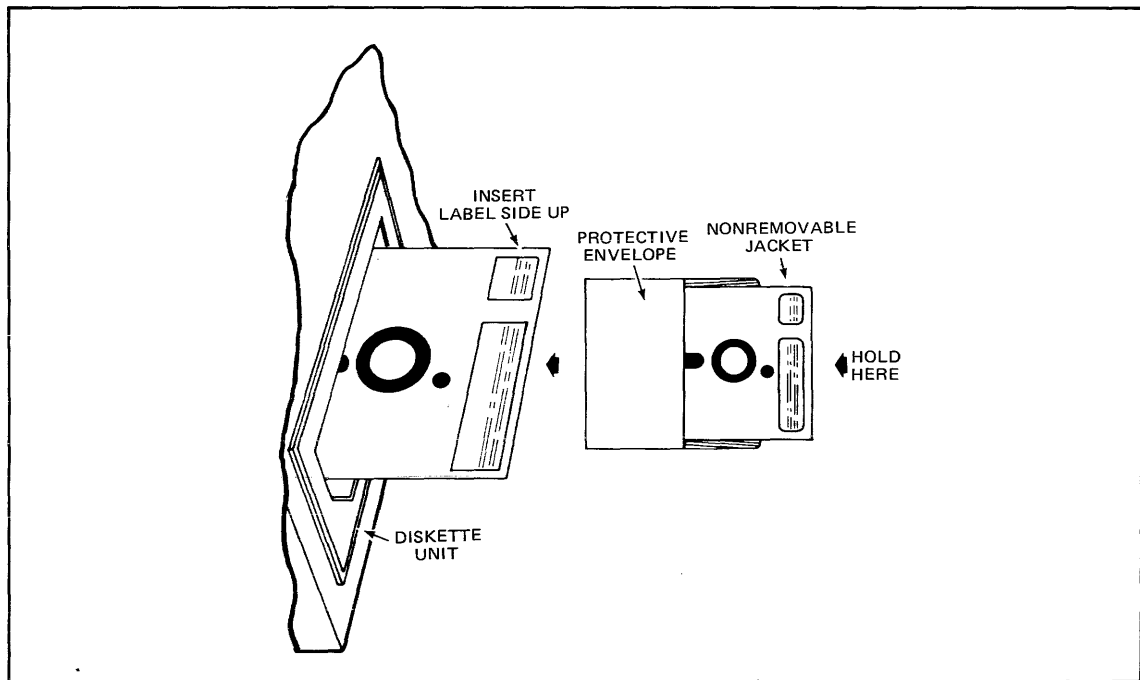

Figure 2-13. Diskette Media Handling
1. Remove the diskette from its protective envelope (Figure 2-13).